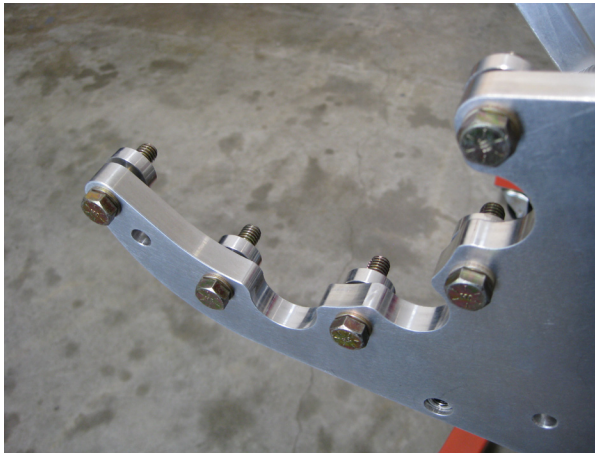

Fig. 5.2-a
- C. Locate the five 3/8-16 x 1.5" bolts, 3/8 AN washers, and five .29" spacers. Install the five bolts through to the supercharger while sandwiching the .29" spacers between the supercharger mounting bosses and the backside of the main bracket. Tighten in steps. (See Fig 5.2-a.)